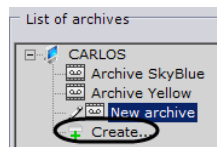

Fig. 6.6—2 Creating an archive
1. In the branch of the **Server** object corresponding to the computer on which you need to organize an archive, click the **Create** link (Fig. 6.6—2).